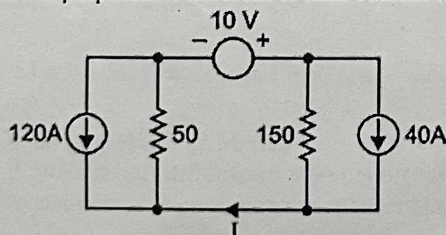

Fig.2
02. Use superposition theorem to find current I in the circuit shown in Fig.2. All resistances are given in ohms.